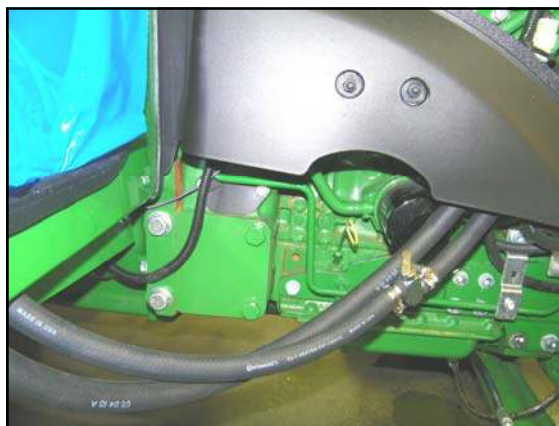

Fig. 3.3
3.3 Per figure 3.3, route the open end of the hoses toward the front of the engine where the 3/8" NPT nipples were installed in step 1.2